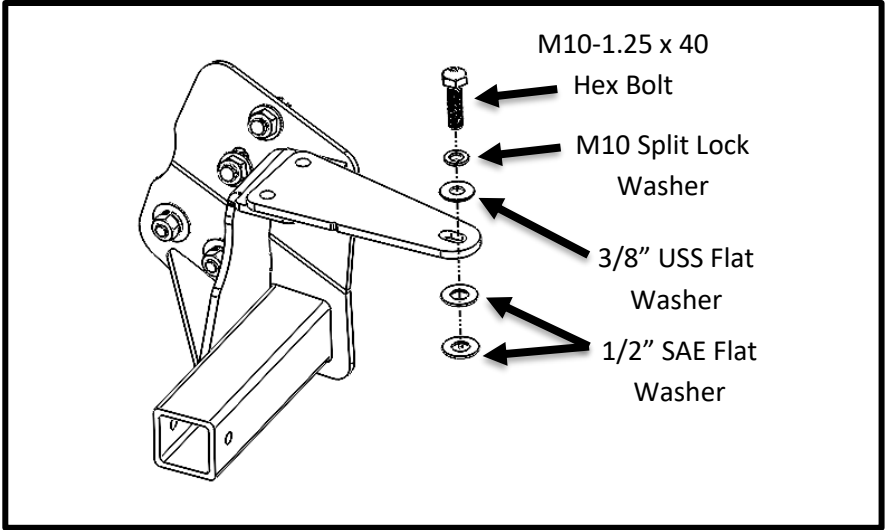

Figure 5.1 (Cab Mount Not Shown for Clarity)
- Thread in a M10-1.25 x 40mm Hex Bolt with one M10 Split Lock Washer and one 3/8" USS Flat Washer into the cab mount as shown in figure 5.1.